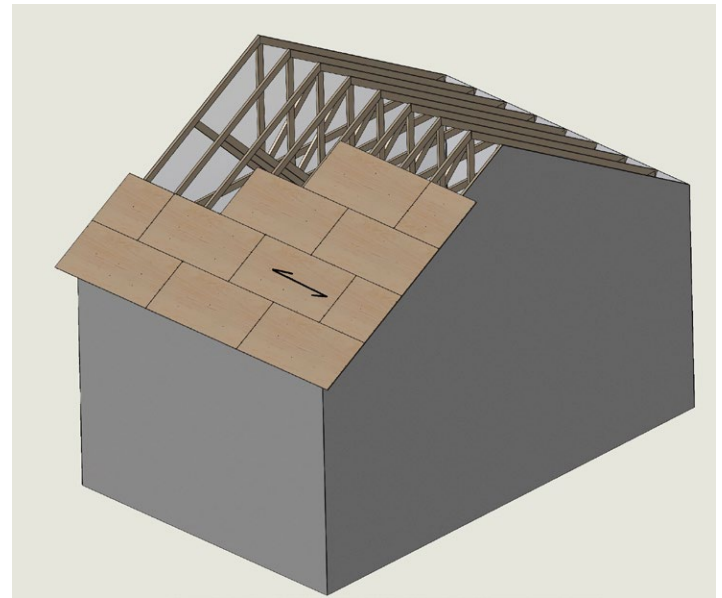

Fig. 9: Installation of plywood panels on a roof structure.
- The short edges should be staggered in relation to each other; this is known as a „staggered joint” layout (see Fig. 9).